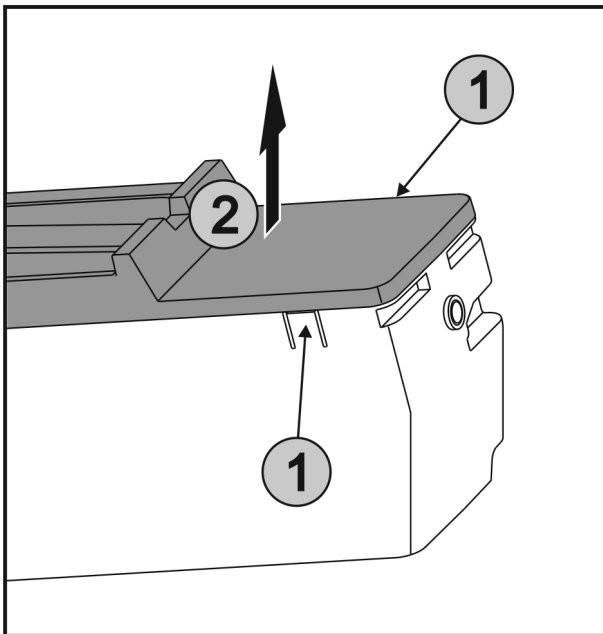

Fig. 52
- ▶ Press the lugs Fig. 52 (1) on both sides of the EasyTwist-Ice simultaneously and take off the cover Fig. 52 (2) upwards.